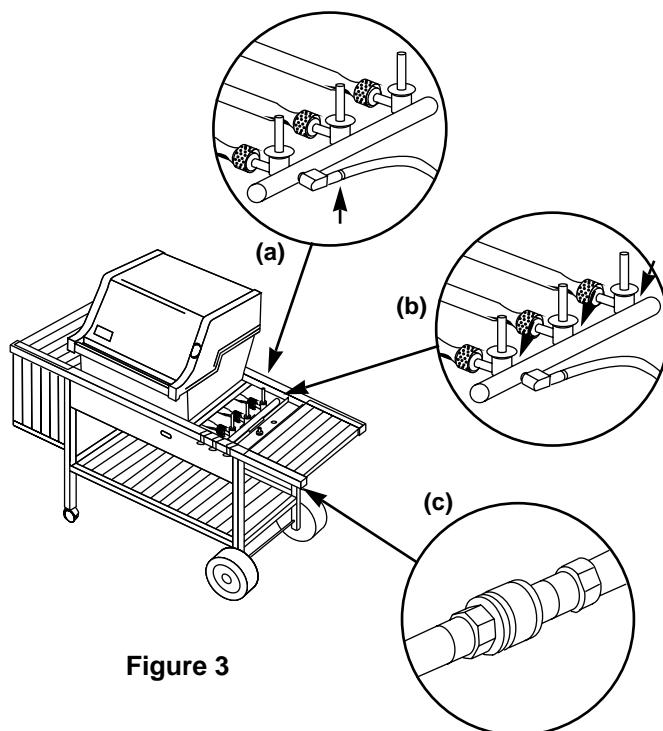

Figure 3
a) Hose to manifold connection. Figure 3 (a).
b) Valves to manifold connections. Figure 3 (b).
c) Hose to quick disconnect connection. Figure 3 (c).